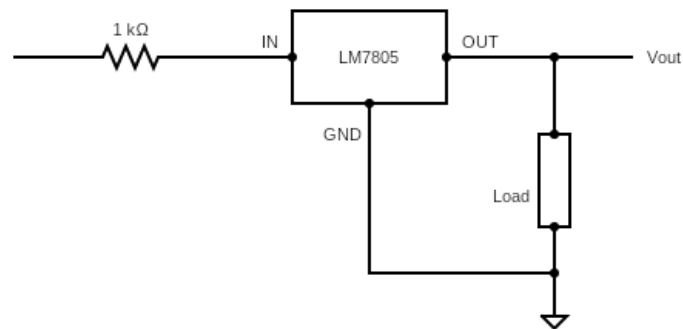

Figure 4: LM7805 voltage regulator
1. Design and build the circuit given in fig 4.